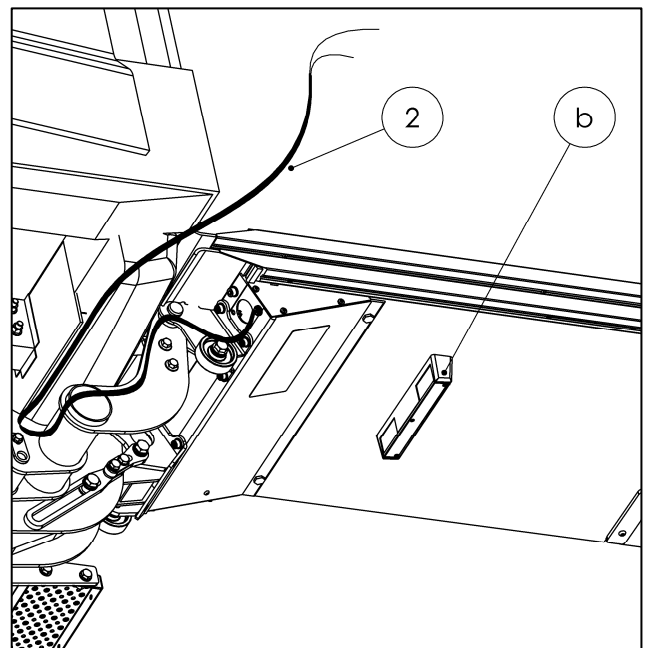

Fig. 62
- Route the license plate light cable (2) (cable outlet from platform's aluminum torsion box) along the closing arm (see Fig. 62).